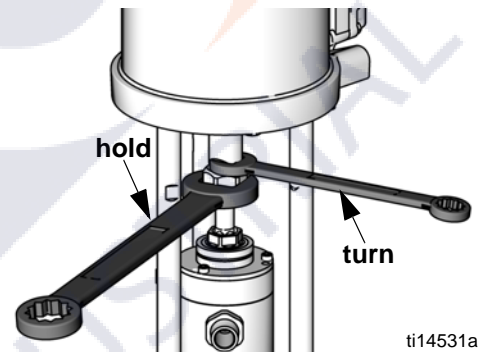

FIG. 7. Loosen the coupling nut.
3. Hold the coupling nut (7) with a wrench. Use another wrench to turn the motor shaft. To avoid damage to the bellows top cap and the D-shaped seal, **do not turn the coupling nut**. See FIG. 7.